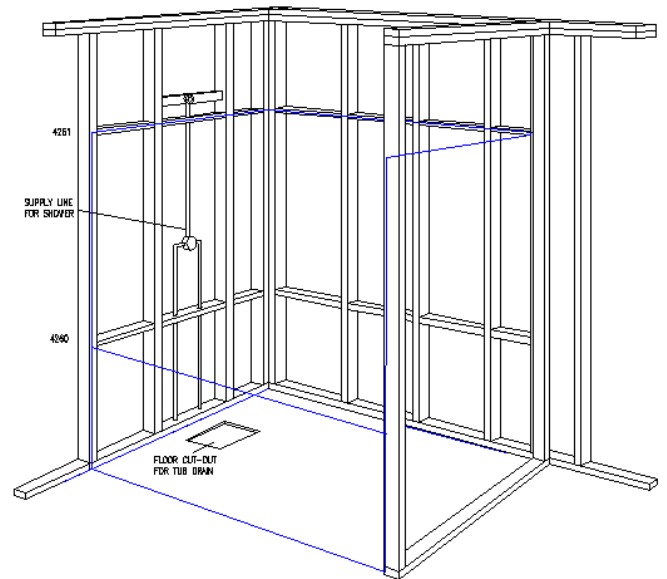

Fig. 1
1. Square and plumb a framed recess pocket to the outside dimensions of the unit, as shown in the table of dimensions. (Fig. 1)
2. Rough in supply line, but do not strap. (Fig. 1)
3. Locate correct position for drain and trap and cut out floor, leaving clearance for final positioning and hook up. (Fig. 1)